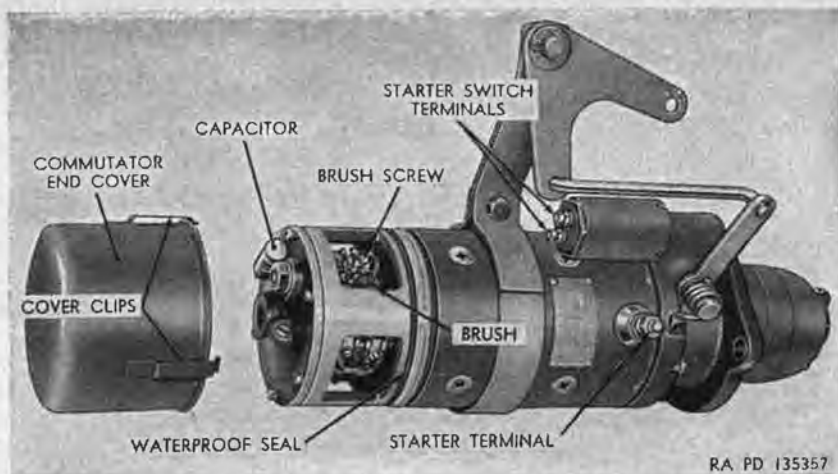

Figure 194. Starter with cover removed.
a. Description. The starter capacitor (fig. 194) is mounted on the front end of the starter frame and is connected to one of the brush holders.
(1) Capacitor removal (fig. 194).
(2) Capacitor installation (fig. 194).